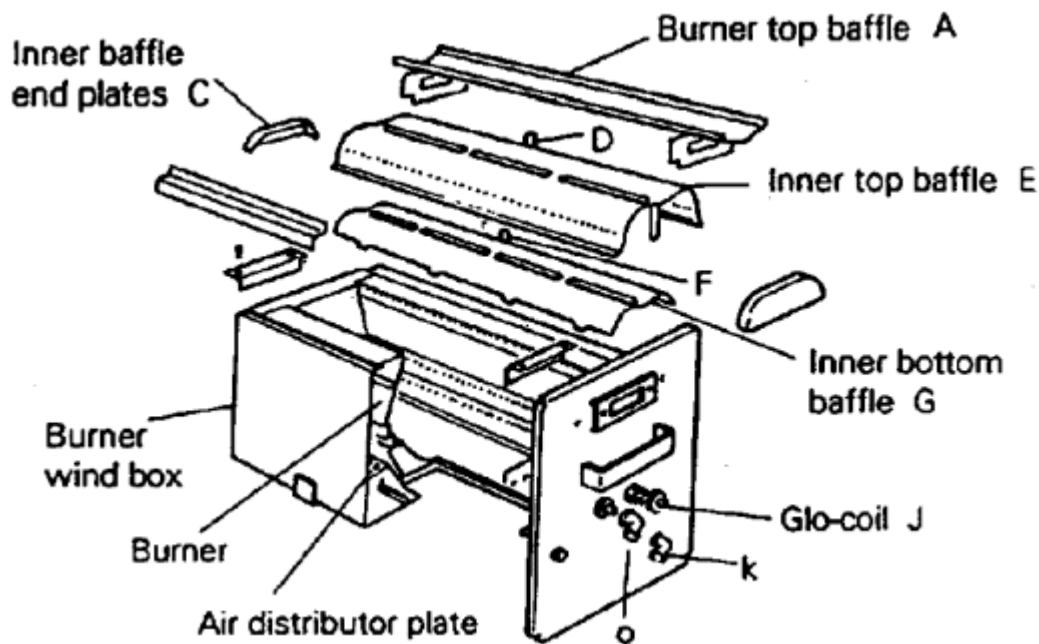

Fig.20 Boiler Burner
**To Clean the Boiler Burner - See Fig.20**